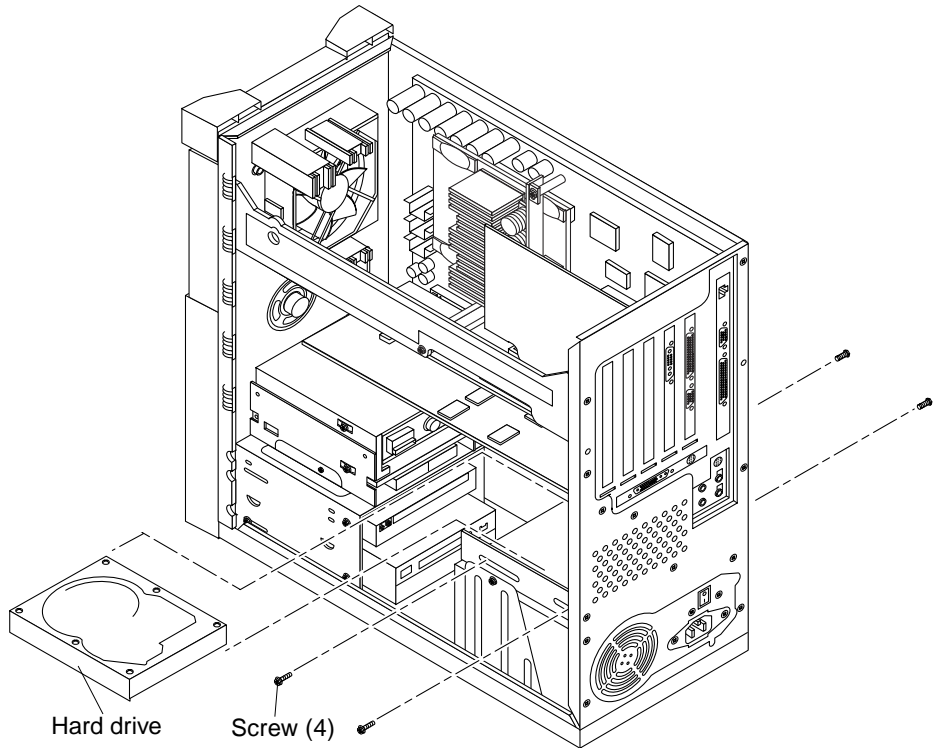

FIGURE 7-2 Removing and Replacing a Primary Hard Drive (Chassis Rear)
3. **Remove the primary hard drive from the chassis rear to provide clearance as follows (FIGURE 7-2):**
2. Replace the primary hard drive into the chassis rear as follows (FIGURE 7-2):